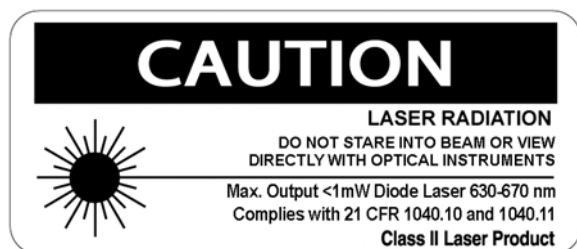

Figure 21
Referring to Figures 21 through 24:
**⚠ WARNING** Do not look directly into the laser beam or view it directly with optical instruments. See Figure 21.